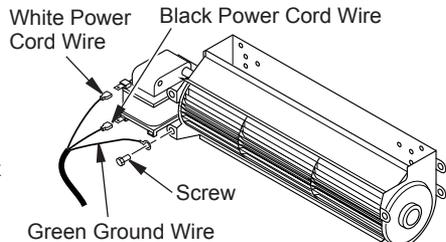

Figure 14 - Removing Wires from Blower
3. Disconnect power cord wires from blower motor (if connected) (see Figure 14).
4. Disconnect green ground wire from blower housing (if connected) by removing screw holding wire terminal (see Figure 14).
10. Attach terminal ends of white and black power cord wires to terminals on blower motor (see Figure 14, page 12). Push firmly.
11. Attach terminal end of green power cord wire to front tab of blower housing using screw provided (see Figure 14, page 12).